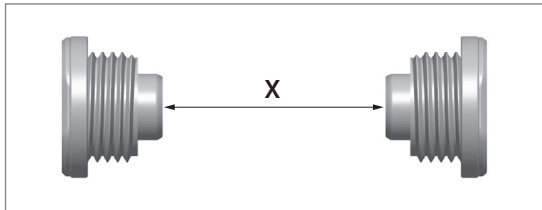

Figure 1.
1. Measure the distance between PrimeLock fitting nose ends (dimension X in Figure 1).